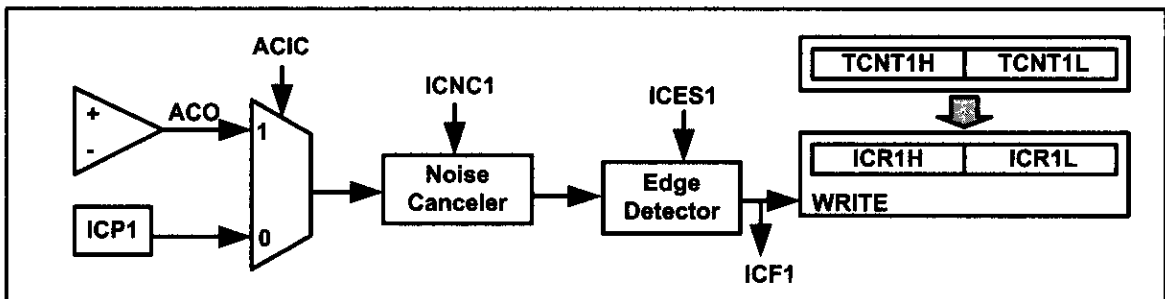

Figure 15-17. Capturing Circuit
As shown in Figure 15-17, there are two event sources: (1) the ICP1 pin, which is PORTD.6 in ATmega32, and (2) the output of the analog comparator. We can use the ACIC flag to select the event source. ACIC is a bit of the ACSR register, as shown in Figure 15-18.
**ACO (Analog Comparator Output)** The output of the analog comparator is connected to the bit. ACO is read only. See Figure 15-17.
**ACIC (Analog Comparator Input Capture Enable)** When the bit is one, the input capture is triggered by the Analog Comparator; otherwise, the ICP1 pin (PD6 in ATmega32) provides the capturing signal. See Figure 15-17.
As shown in Figures 15-17 and 15-19, we use the TCCR1B register to select the type of edge detection and activate/deactivate the noise canceller unit.